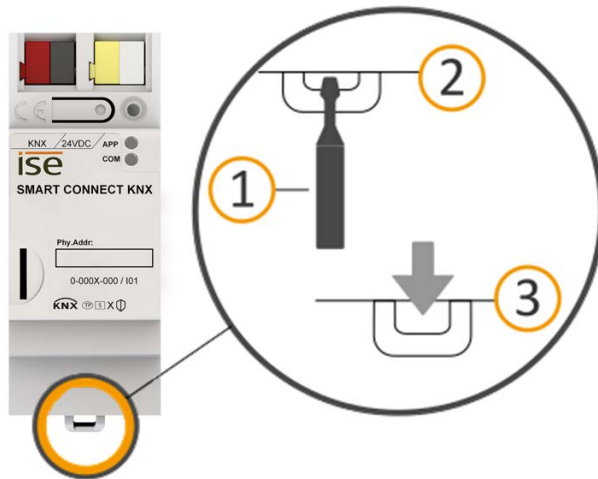

Figure 28: Detaching the device from the top-hat rail
1. Insert a screwdriver (see figure 28, item 1) into the release lever (see figure 28, item 2) and push the release lever down (see figure 28, item 3).